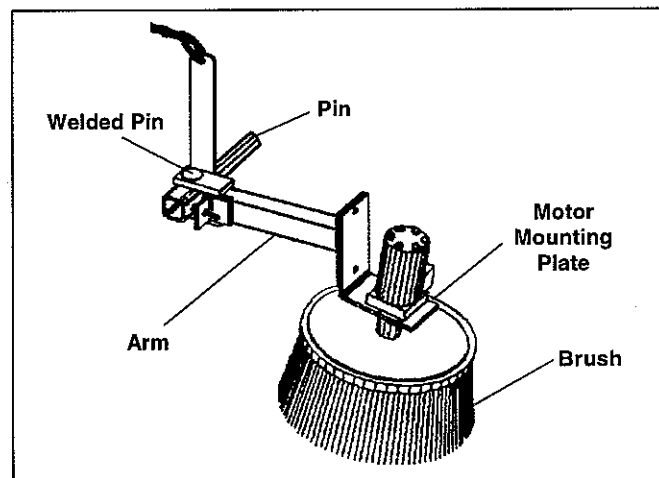

figure 22
4. Slide the gutter brush pin (figure 22) into the sleeve. Place the round plate on the gutter brush pin and secure with a roll pin.
5. Place the gutter brush arm (figure 22) on the gutter brush pin and secure with the welded pin (figure 20) and cotter pin.
6. Attach the motor mounting plate (figure 22) to the gutter brush arm.
7. Place motor on motor mounting plate (figure 22) and secure with screws indicated in parts list.
8. Attach the brush to the motor (figure 22) using the set screw and screw provided.